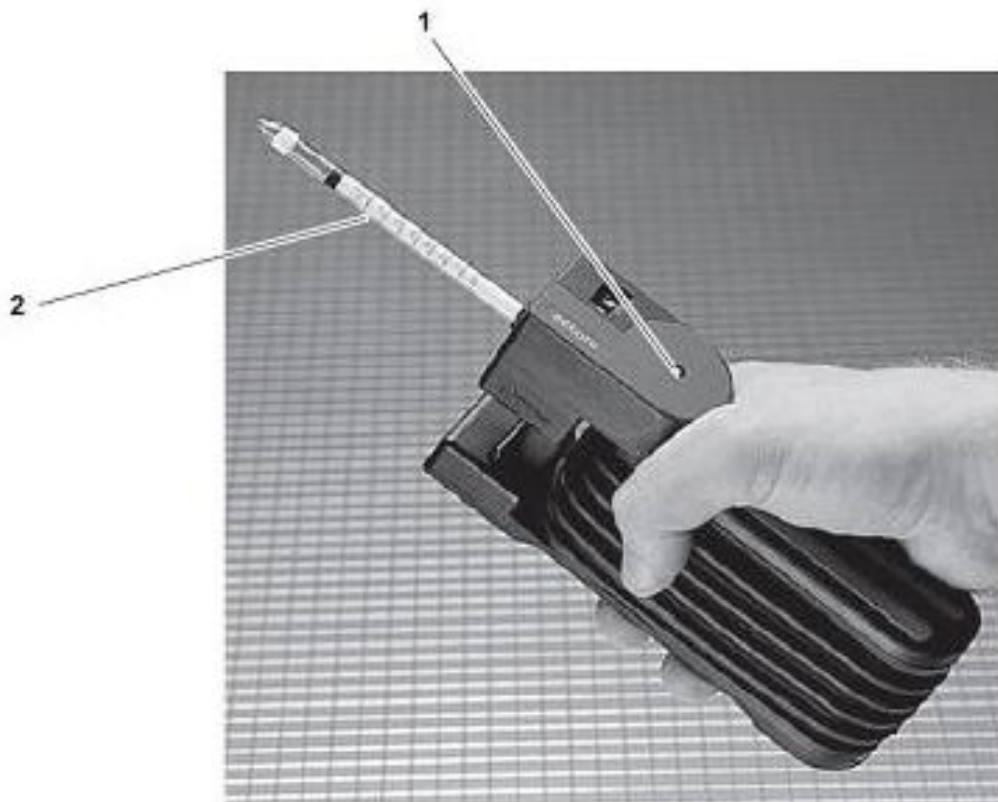

Figure 551-8ST-1004\_37 (Draeger Accuro Pump)
(23) Wait one minute before reading the results. If no color change occurs, the concentration of oil in the air sample is less than 5 mg/m3 and is acceptable. Refer to Figure 551-8ST-1004\_36. Any color change indicates an unacceptable reading.